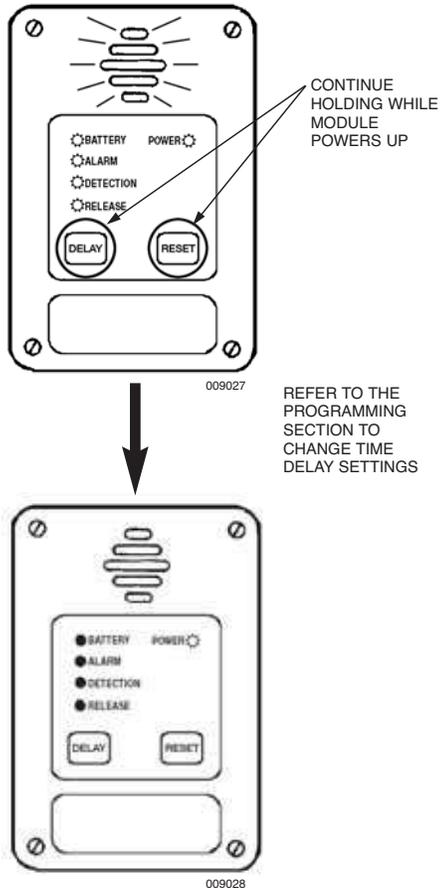

FIGURE 34d
6. Continue holding the DELAY and RESET buttons while the module powers up (3 beeps while all LEDs are on). When ONLY the green POWER LED remains flashing, the DELAY and RESET buttons may be released, see Figure 34d.